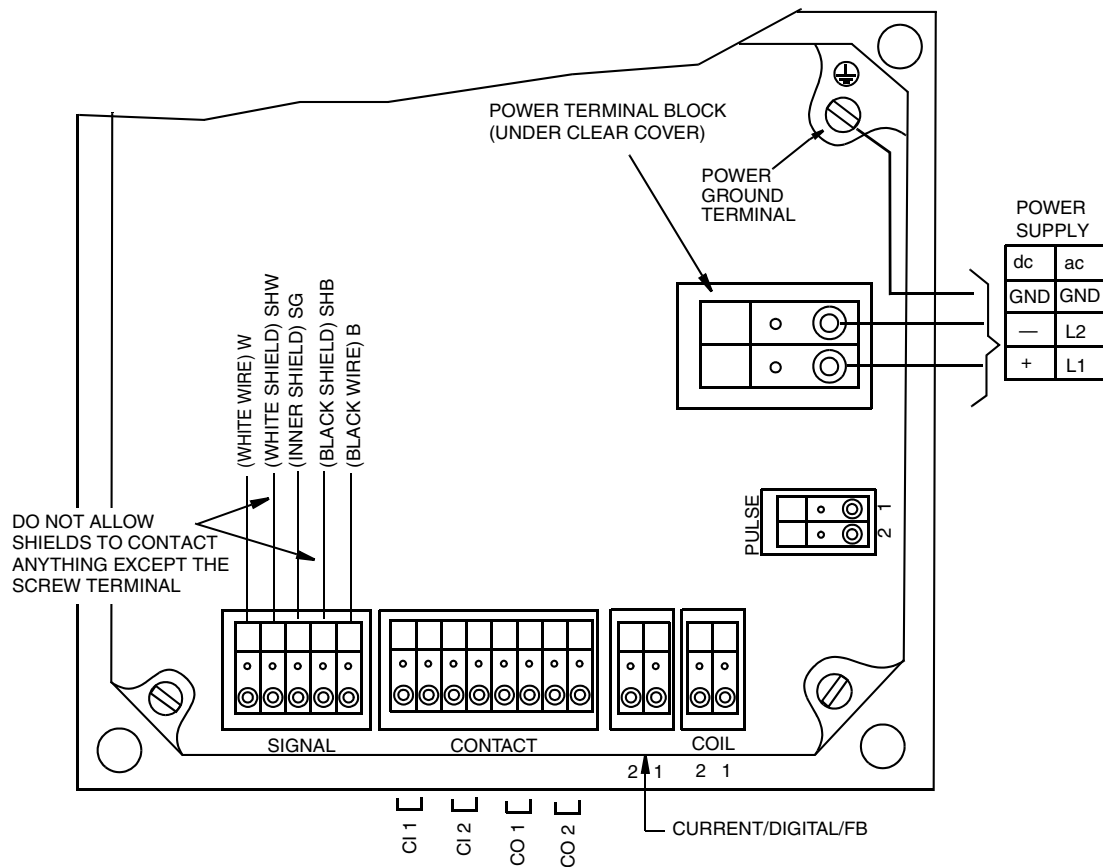

Figure 7. Wiring of IMT25 Single Compartment Enclosure
3. Refer to Figure 7 and disconnect all wires from the transmitter. Note the arrangement of wires for later reconnection.
3. Refer to Figure 7 and disconnect the signal and coil wires from the transmitter. Note the arrangement of wires for later reconnection.